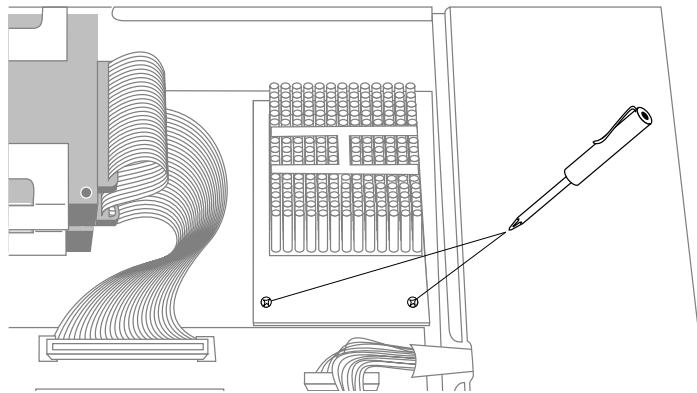

Figure 23 Removing the two screws from the CPU module
- Using the Phillips screwdriver provided, remove the two screws that connect the CPU module to the system board, as shown in Figure 23.